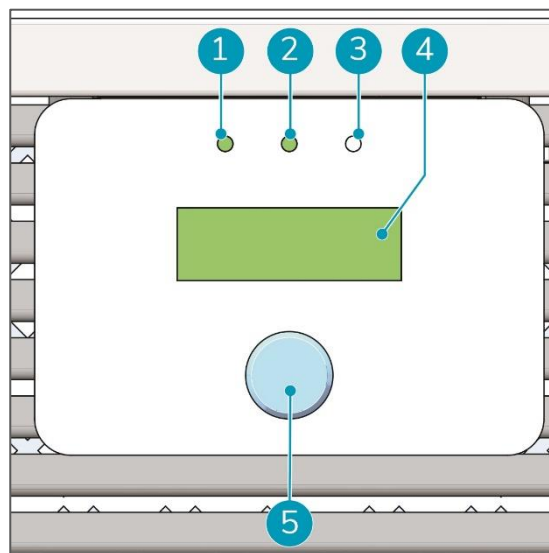

Figure 10
- LED indicators (Figure 10, pos. 1, 2 and 3);
- display (Figure 10, pos. 4);
- betjeningsknott (Figure 10, pos. 5).